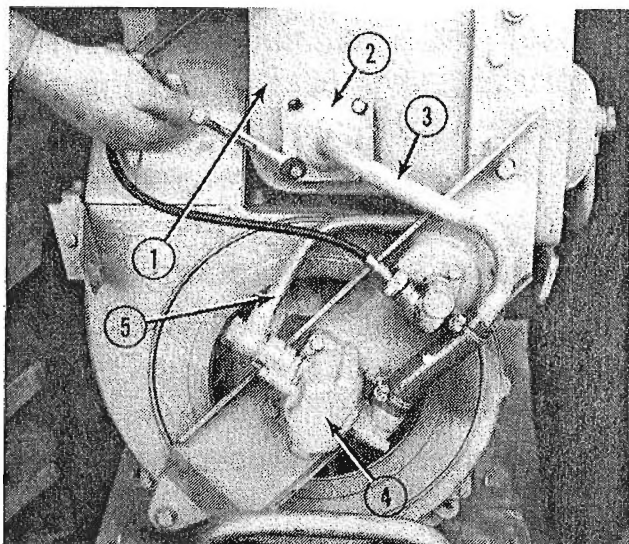

FIG. 1
Figure 1 shows a typical pump installation on Ruggerini-powered tractors. This same mount and drive set-up is used on the single-cylinder Lombardini powered tractors also. The major elements of the system are identified for your convenience.
- (1, Fig. 1) Reservoir
- (2, Fig. 1) Filter Cap
- (3, Fig. 1) Suction Line
- (4, Fig. 1) Pump Assembly
- (5, Fig. 1) Pressure Line